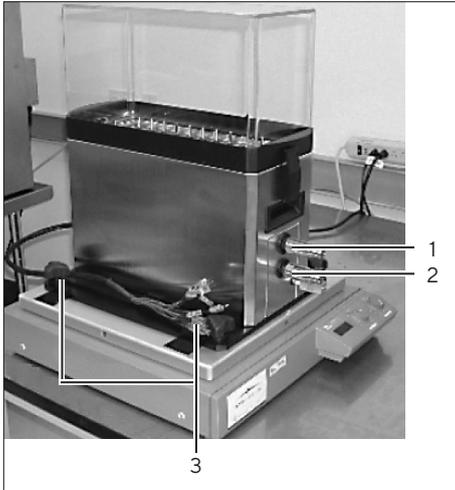

Fig. 7: S³ Module Positioning
- ▶ Place the S³ Module on top of the Cryomixer Jr. as shown in Figure 7 so that the motion of the Cryomixer Jr. will allow for mixing along the length of a Celsius® Pak.